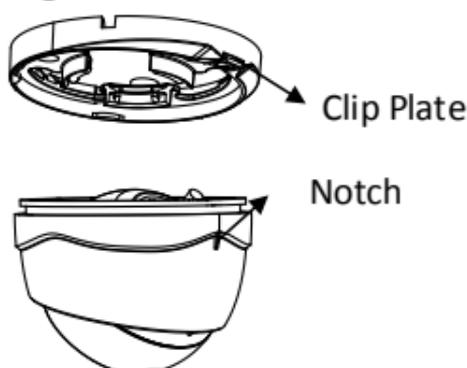

Figure 2-6 Disassemble the Camera
1. Disassemble the turret camera by rotating the camera to align the notch to the clip plate, as shown in the Figure 2-6.